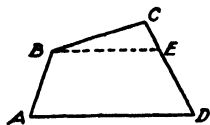

Fig. 28. Quadrilateral.
80. A *quadrilateral* is a polygon bounded by four straight lines, as Fig. 28.
The area of a *quadrilateral* like that shown in Fig. 28 may be obtained by drawing a line, $B E$, parallel to the base $A D$. The figure will then be divided into a trapezoid and an extra triangle whose areas are measurable by the methods given.